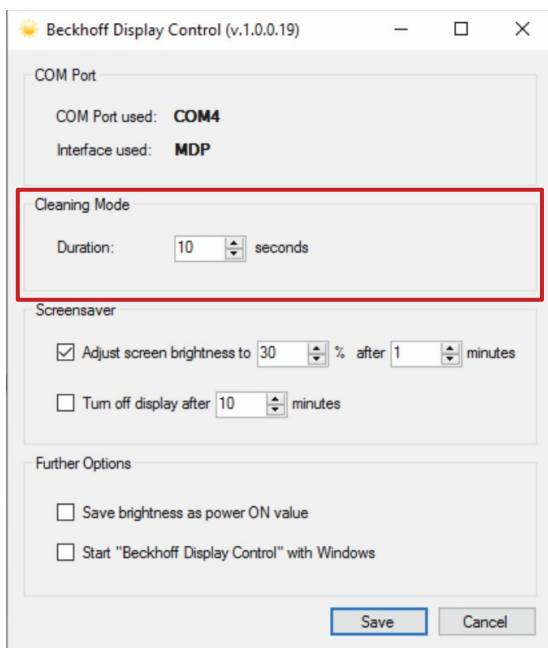

Fig. 27: Configuration "Cleaning Mode"
1. Pull the battery out of the panel PC with needle-nose pliers (see Fig. 27).